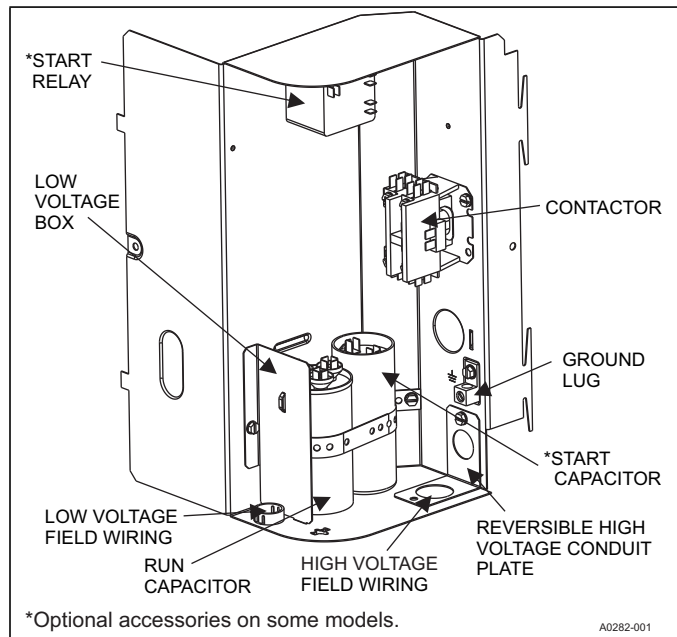
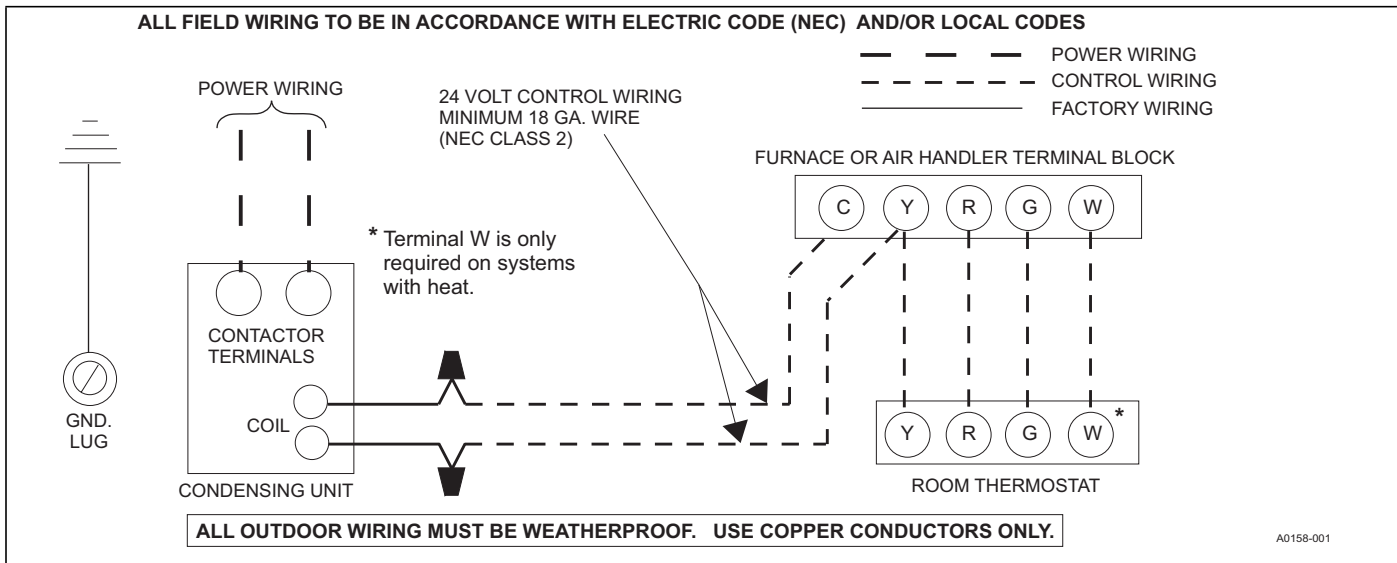

FIGURE 12: Outdoor Unit Control Box (Single Phase - Smaller Base)
FIGURE 14: Typical Field Wiring (Air Handler / Electrical Heat) (Single-Phase)
1. Route low voltage wiring into bottom of control box as shown in Figure 12 or 13. Make low voltage wiring connections inside the low voltage box per Figure 14.